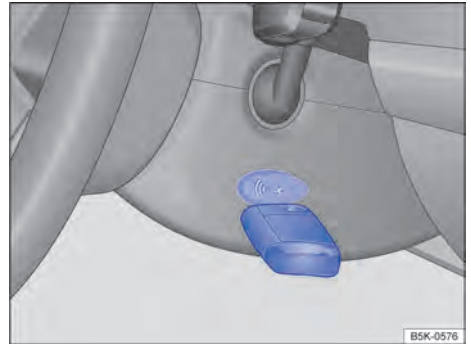

Fig. 91 To the right of the steering column: emergency start function of vehicles with Keyless Access locking and start system.
- Hold the vehicle key after pressing the start button directly to the right of the steering column → Fig. 91.